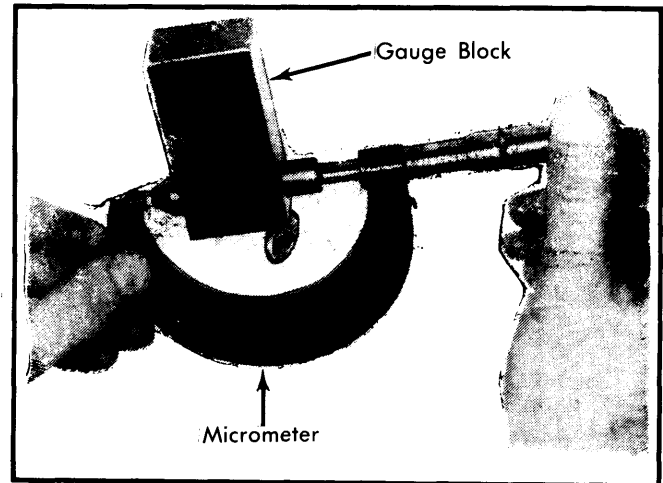

Fig. 5 Measuring Gauge Block
4) Loosen gauge block thumbscrew and release plunger. When plunger contacts arbor tool, tighten thumbscrew to lock plunger in position. Remove clamp and bolt from axle housing, remove gauge block and measure distance from end of anvil to end of plunger. This dimension represents measured pinion depth. See Fig. 5.